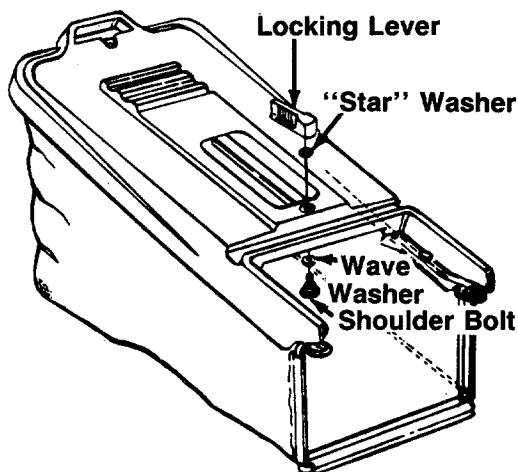

FIGURE 11.
- b. Insert shoulder bolt up through hole in hardtop cover as shown in figure 11. Place "star" washer over shoulder bolt.